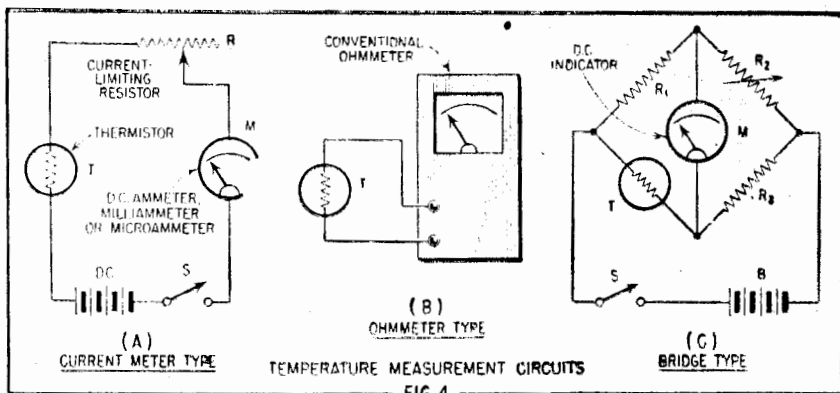

FIG. 4
Figures 4 to 15 show representative thermistor circuits. These have been selected to illustrate the wide range of applications possible with thermally-sensitive resistors of this class.
Temperature Measurement. The thermistor is applicable as a temperature sensing element of good sensitivity. In this connection, a small thermistor may be mounted in the nose of an exploring probe. Figure 4 shows several circuits for temperature measurement.
In Fig. 4(A), the thermistor (T) is connected in series with a DC source, adjustable current-limiting resistor (R), and a direct current meter, (M). Ref
In Fig. 4(B), a conventional DC ohmmeter is employed to indicate the thermistor resistance as it changes with temperature. The meter deflection may be referred to a resistance-vs-temperature calibration or the instrument scale may be graduated directly in degrees on the basis of such a calibration.
Fig. 4(C) shows one type of bridge circuit for checking temperature by measuring thermistor resistance. In this arrangement, the thermistor (T) forms one arm of the bridge, while the other three arms are conventional resistors.
For greater sensitivity to small changes in temperature, a sensitive relay may be substituted for the indicating meter in the bridge circuit in Fig. 4(C).